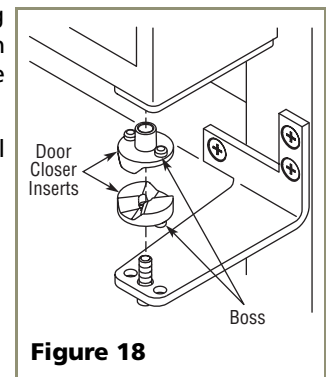

Figure 18
7. Reinstall the closers, lining up the bosses with holes in hinge and hinge plate (see **Figure 18**).